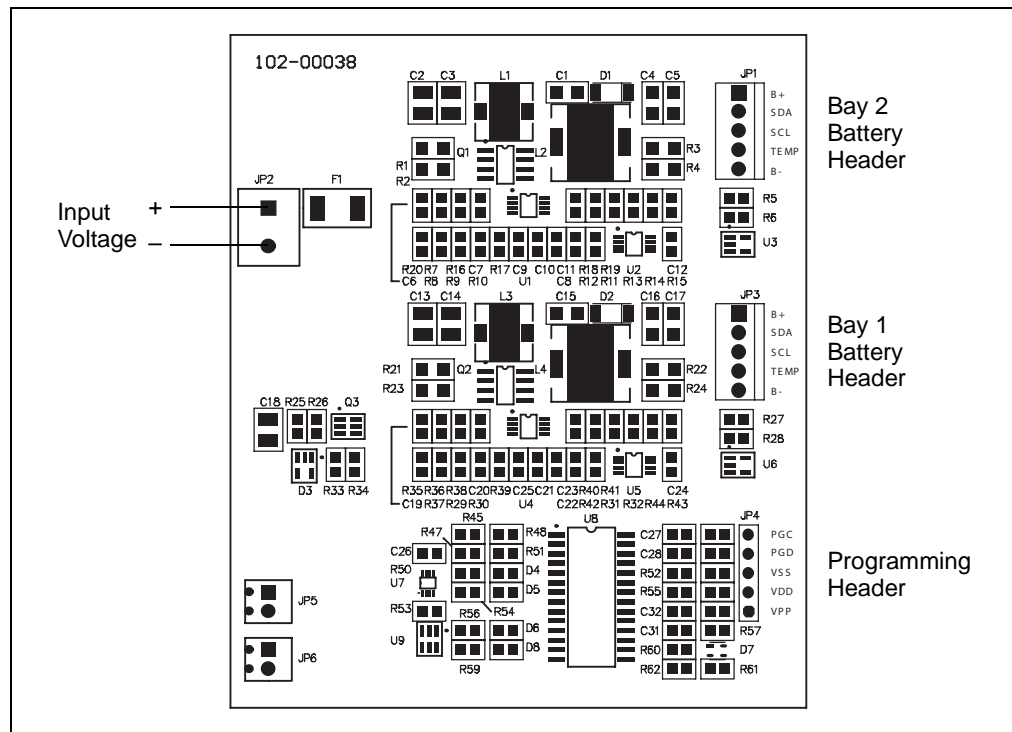

FIGURE 2-1: Setup Configuration Diagram.
2. Connect the positive side (+) of the input source to pin 1 of JP2. Connect the negative or return side (-) of the input source to pin 2 of JP2. Refer to Figure 2-1.